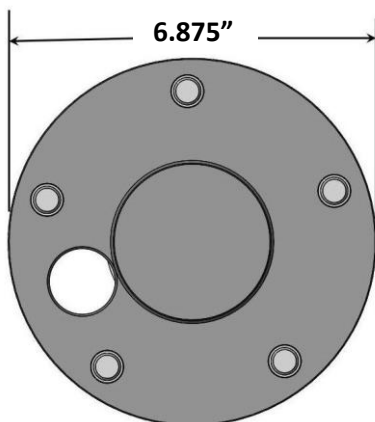
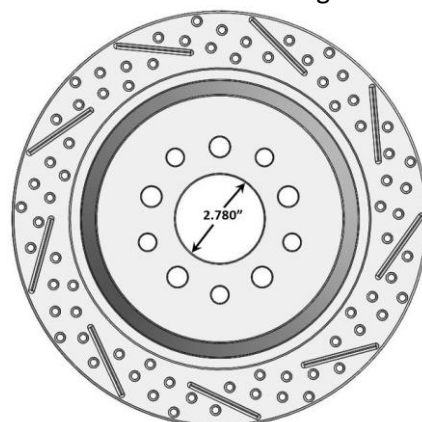

Figure 1a – Measuring the Axle Flange
Figure 1b – Rotor Register Diameter
4. The outer diameter of the axle flange can be no larger than 6.875" in outside diameter. This is critical for proper fitment of the rotor over the axle flange. For axle with a flange larger than 6.875", using a lathe, machine the outer flange down to no larger than 6.875". See Figure 1a below for measuring reference. Also the rotor register diameter is 2.780". If your axle register is larger than 2.775", you will need to machine it to 2.775" so that the rotor fits properly and is hub centric. See Figure 1b below for measuring reference.